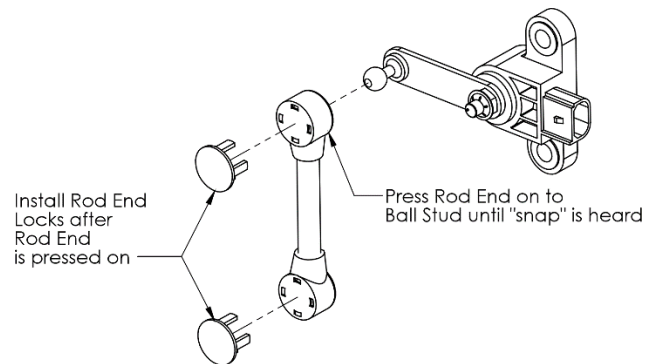

Figure 49. Height Sensor Plastic Linkage End Installation.
4. Snap the Linkage Assembly to the ball stud attached to the lower control arm and to the ball stud on the Height Sensor arm. Refer to **Figure 49 or Figure 50** for linkage detail.